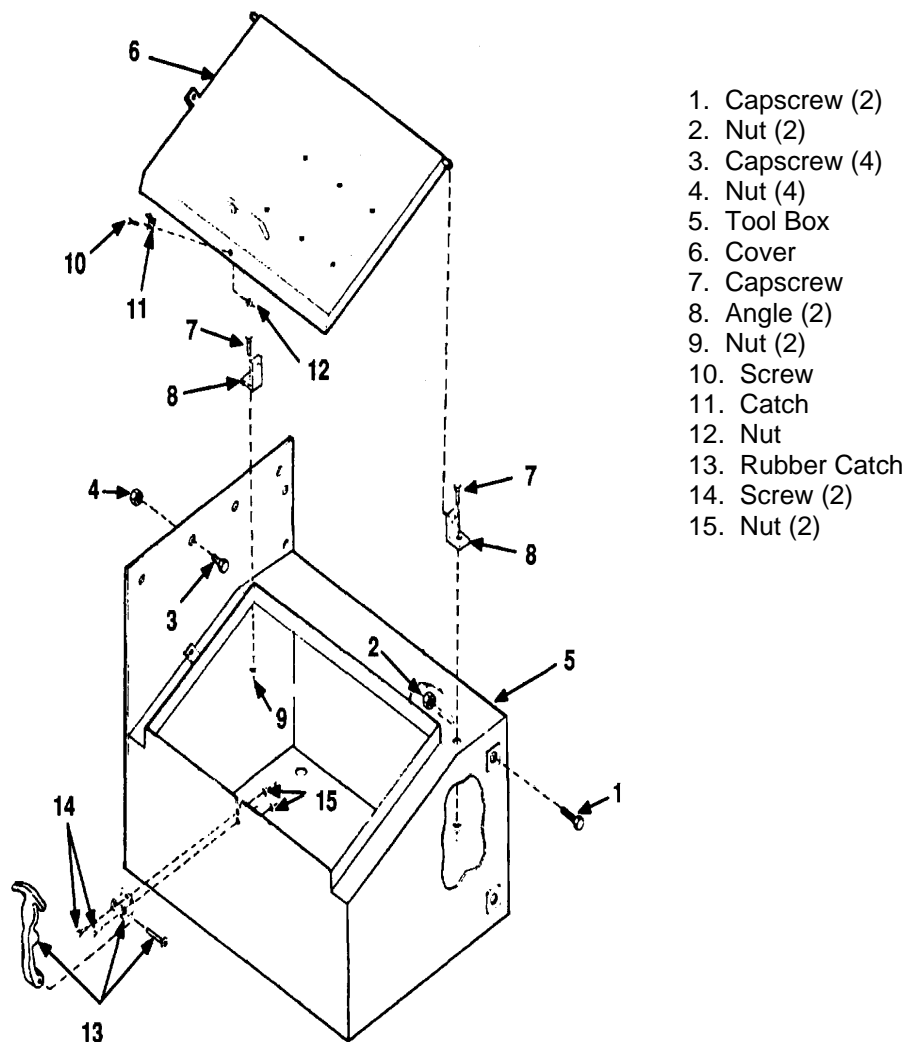

Figure 4-67. Tool Box
4-61. Tool Box, Fig. 4-67.
(1) Remove tool box contents and set aside.
(2) Place a support under tool box to support it when mounting screws are removed.
(4) Remove two capscrews (1) and nuts (2).
(5) Remove four capscrews (3) and nuts (4), and remove tool box (5).
(6) Install tool box by reversing steps (1) through (5).
b. Disassembly and Assembly. Remove and install any items that need replacement, fig. 4-67.